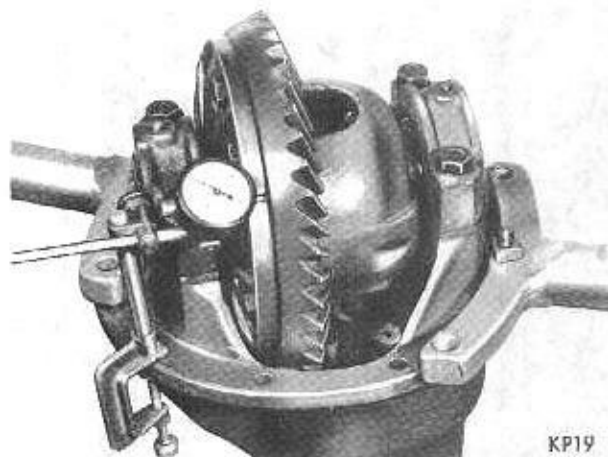

Fig. 15—Checking for Runout and Zero End Play
(1) Mount carrier in Stand DD-1014 and attach dial indicator Tool C-3339 to differential carrier flange in a position so pointer of indicator squarely contacts back face of ring gear (Fig. 15). With a screw driver positioned between bearing cap and differential case flange, then using a prying motion determine if side play is present. If side play is evident, remove adjuster lock and loosen adjuster slightly and retighten adjuster sufficiently to eliminate side play.
(2) Rotate drive gear several complete revolutions while noting total indicator reading. Mark drive gear and differential case at point of maximum runout. The marking of differential case will be very useful later in checking differential case runout. Total indicator reading should be no more than .005 inch. If runout